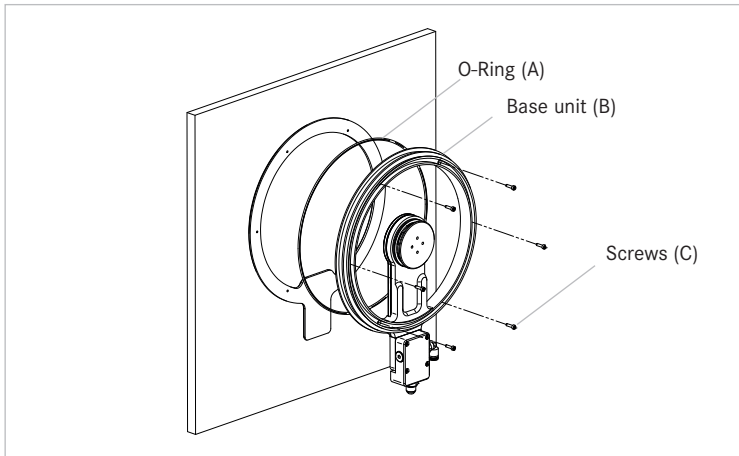

Figure 7: Mounting base unit SPINVISTA
- Insert the O-ring (A) into the corresponding groove on the underside of the base unit (B). Be careful not to overstretch the O-ring.
- Press the base unit lightly onto the mounting plate and align the base unit holes with those of the mounting plate (Figure 7).
- Starting from the top, screw the base unit crosswise at the mounting plate using the supplied screws (C).